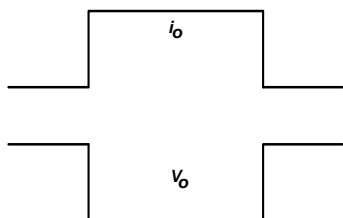
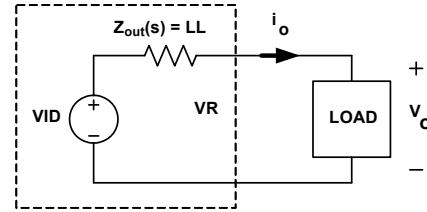

FIGURE 24. DESIRED LOAD TRANSIENT RESPONSE WAVEFORMS
FIGURE 30. VOLTAGE REGULATOR EQUIVALENT CIRCUIT
Assuming the compensator design is correct, Figure 24 shows the expected load transient response waveforms if C_n is correctly selected. When the load current I_{core} has a square change, the output voltage V_{core} also has a square response.
Figure 24 shows the desired load transient response waveforms. Figure 30 shows the equivalent circuit of a voltage regulator (VR) with the droop function. A VR is equivalent to a voltage source (= VID) and output impedance $Z_{\text{out}}(s)$. If $Z_{\text{out}}(s)$ is equal to the load-line slope LL, i.e., a constant output impedance, then in the entire frequency range, V_o will have a square response when I_o has a square change.